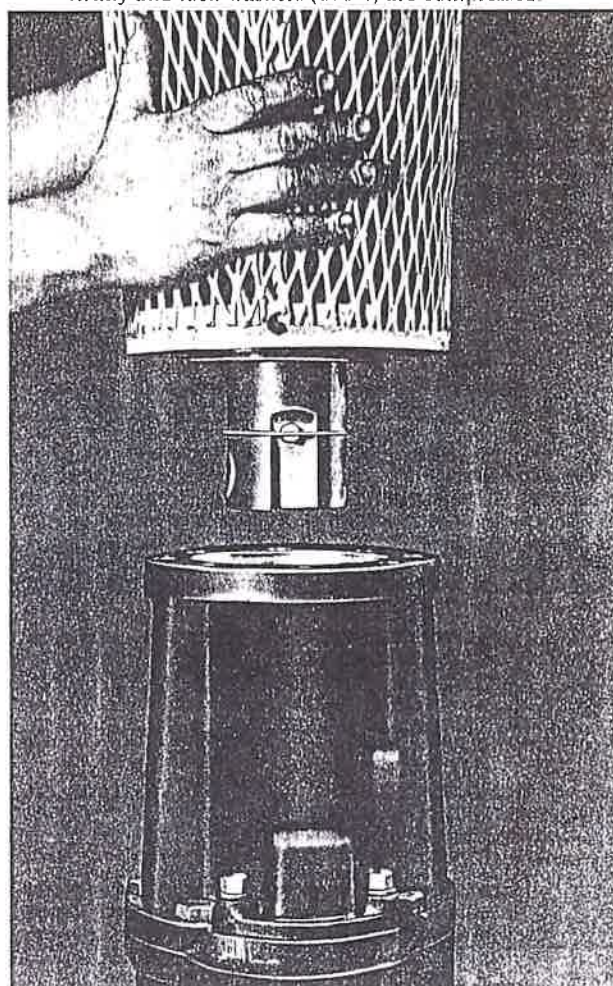

Figure 14 — Aligning Strainer and Adapter
6. Verify that the pump half coupling (530) is securely locked in place by the pin (539) and retainer ring (526), and that the bore and shaft are clean and free of dirt or foreign matter.
7. Refer to Figure 14. Lower the bowl assembly to engage the jaws of the pump half coupling (530) with those of the motor half coupling (529).
8. Rotate the bowl assembly to line up bolt holes of strainer with those of adapter (808) and to line up bottom cable guard with terminal shipping cap (112.2), then lower until both flanges butt metal-to-metal. Install and tighten the fasteners (cap screws or stud nuts with washers).
9. Remove the adapter bracket pipe plugs (794) to observe, through the pipe plug holes, the alignment of the holes for the coupling lock screws (806-3). Install the coupling lock screws (806-3) with their washers (690-4) and apply torque to the coupling lock screws (806-3) as follows: